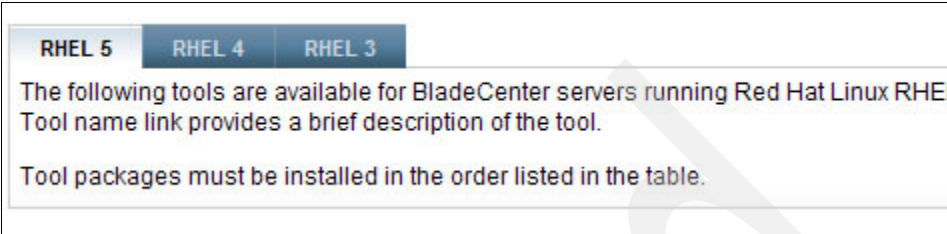

Figure F-3 OS level selection tabs example
3. Click the tab (as shown in Figure F-3) that matches your Linux operating system (OS) level. The packages under each tab are unique to that Linux OS level.
3. Click the tab (as shown in Figure F-3 on page 469) that matches your Linux operating system (OS) level. The packages under each tab are unique to that Linux OS level.